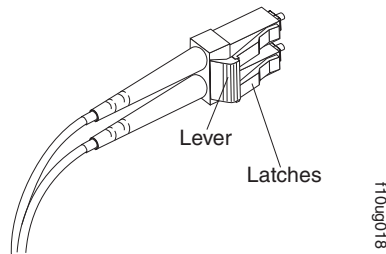

Figure 40. LC-LC fibre-channel cable lever and latches
1. On the end of the cable that connects into the LC connector end of the LC-SC cable adapter, press down and hold the lever to release the latches. Figure 40 shows the location of the lever and latches.